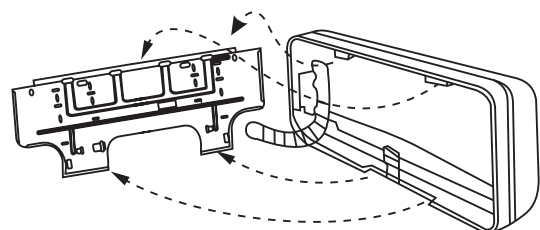

Figure 13
- 5) Adjust the position of the indoor unit, fixing it firmly onto the back cover (figure 13).